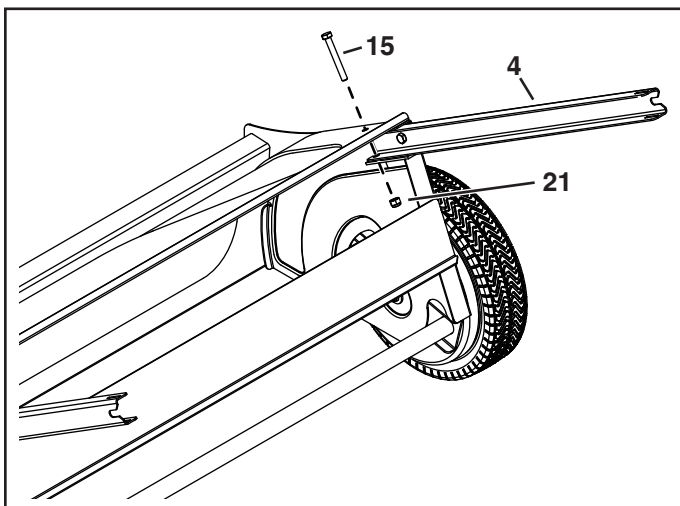

FIGURE 2
STEP 2: (SEE FIGURE 2)
- Slide the bag arm channels (4) into the sweeper housing as shown in figure 2. Secure them to the sweeper housing with a 5/16-18 x 2-1/2" hex bolt (15) and 5/16" nylock nut (21). Tighten bolt until snug. **Do not overtighten.**